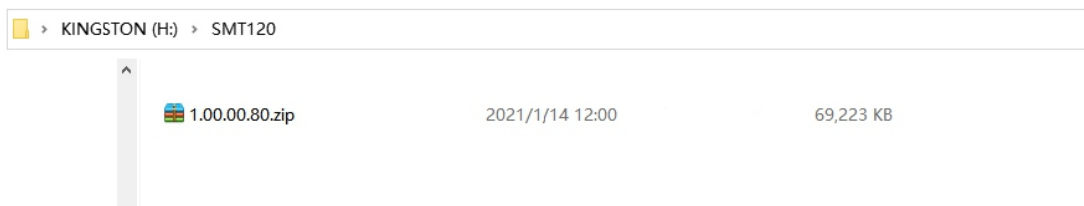

Figure 6-1
- 3) Create a "SMT120" folder in the root directory of USB flash drive, copy ".zip" and ".md5" format files into this folder showing as Figure 6-1.